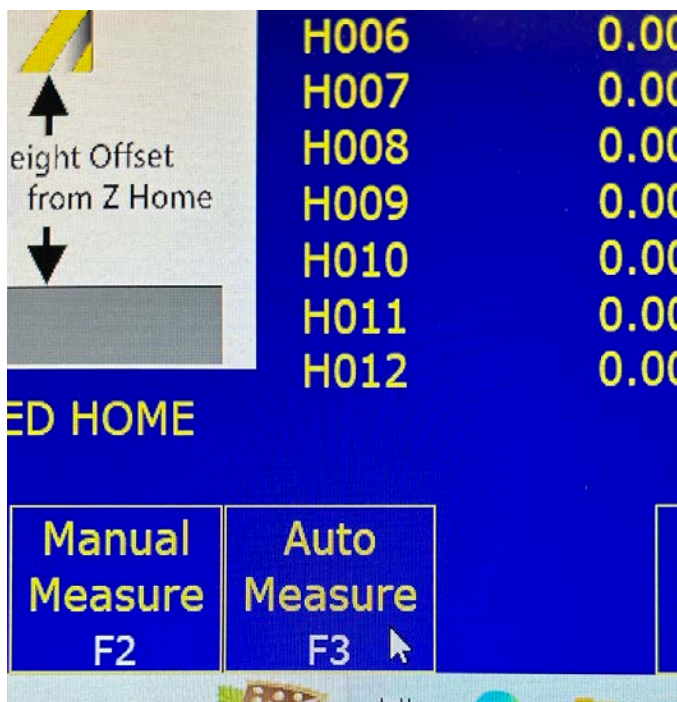

FIGURE 33
- Now click on Auto Measure F3 (see Figure 33).